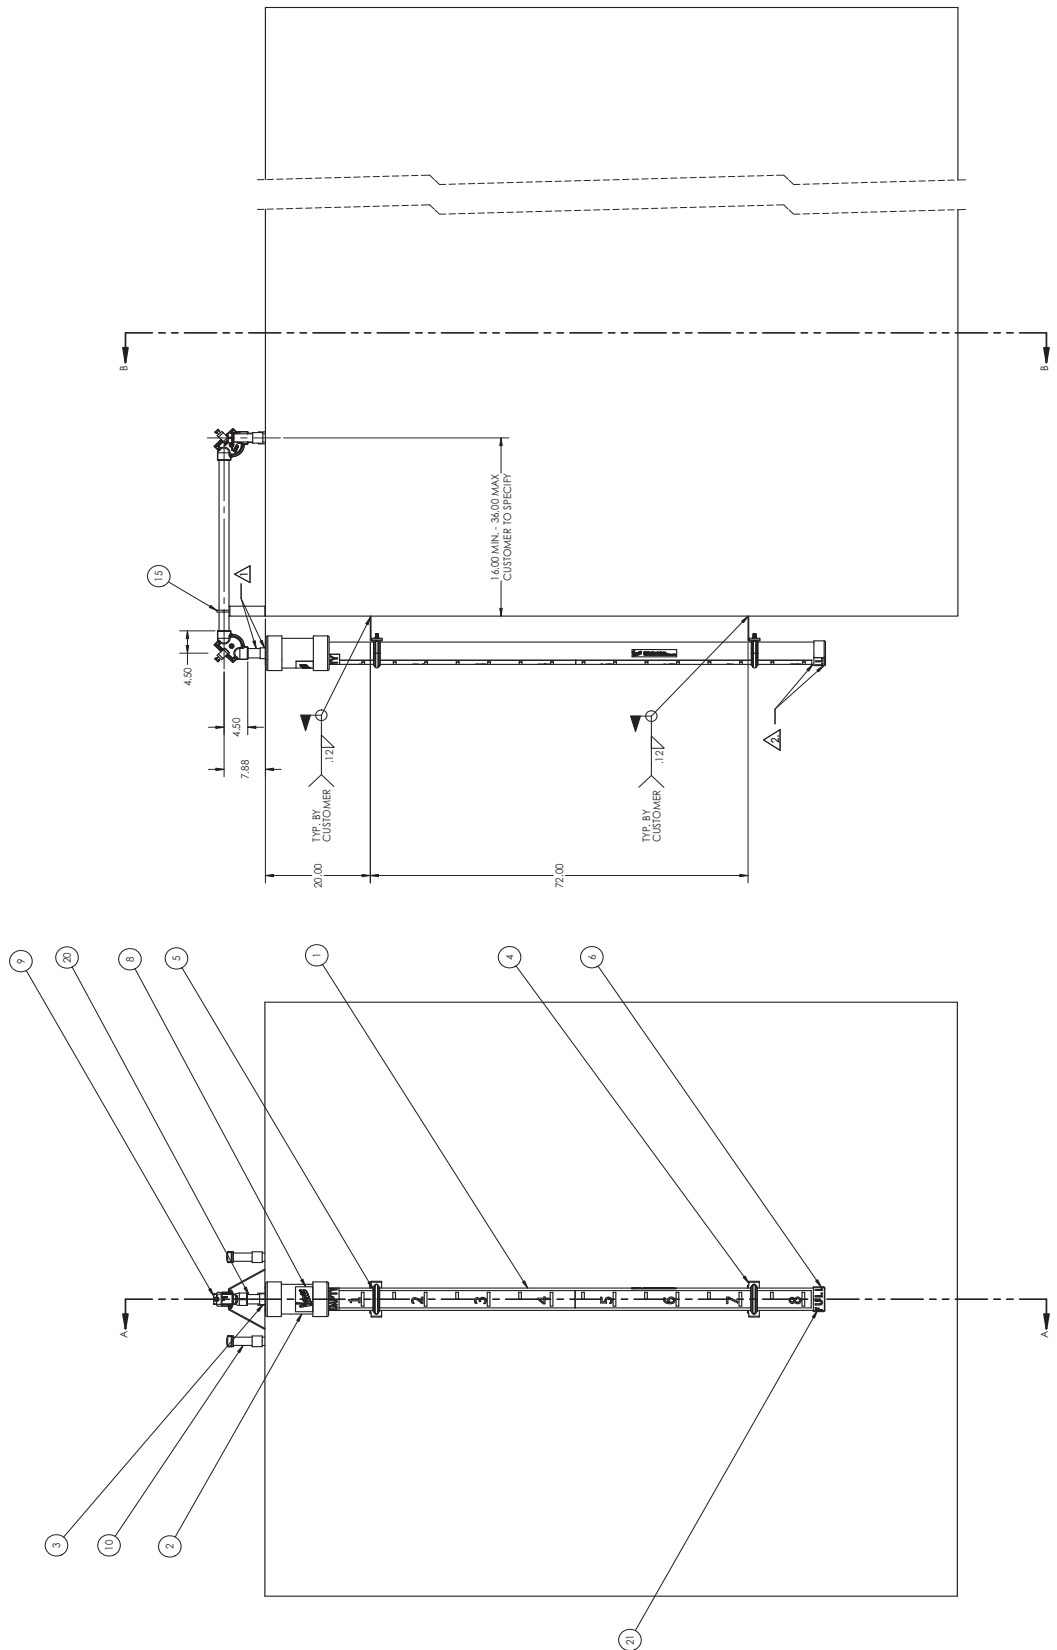

Figure 3: Tube Style Level Gauge for Mobile Tank Top Assembly Side View
29. Temporarily attach the cable to the float with the furnished fastener (see Figure 3 on page 9). Feed the other end of the indicator cable over the sheave in the elbow and make sure that it is seated on the pulley. Final attachment to be made at initial calibration.